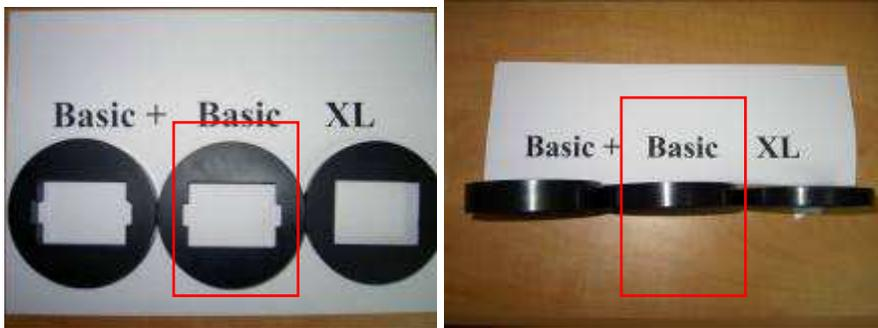

Figure 52: Basic Adaptor Window
3. Place the special supplied **Basic Adaptor Window** (Figure 52) on top of the Ophir meter Sensor. (Please disassemble any other adaptor which is currently installed before that)